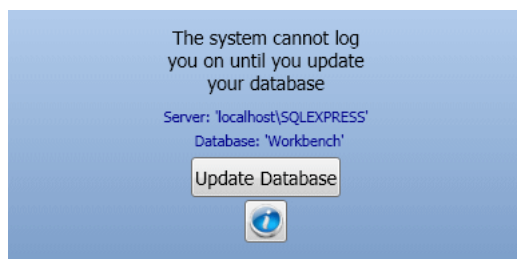

Figure 48 Update Database
13. Start Workbench, the database needs to be updated. Figure 48 shows the initial screen.